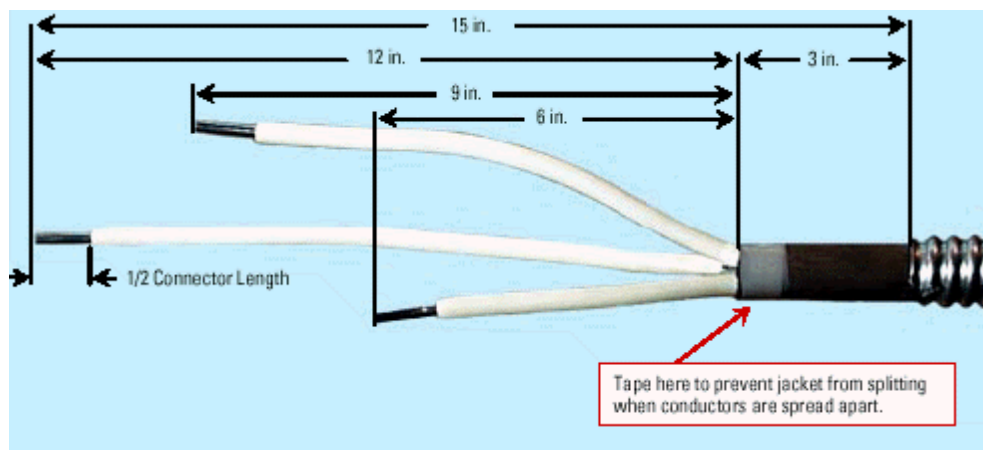
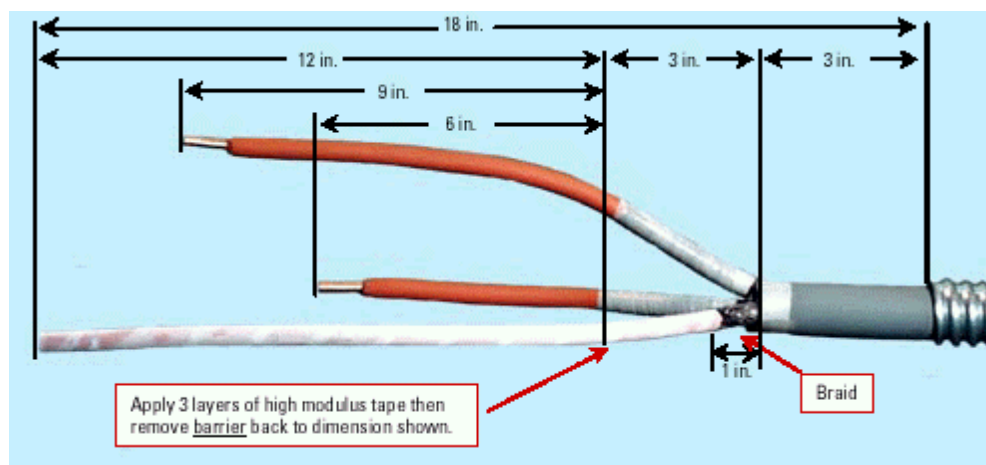

Figure 5-23: Conductor preparation for cables without barriers
Figure 5-24: Conductor preparation for cables with barriers
2. Prepare the cable ends. Figure 5-23 shows dimensions for round cables without barriers. Figure 5-24 shows dimensions for round cables with a taped or extruded barrier between the insulation and jacket. Carefully remove the armor to the dimension shown in the figures without cutting into the jacket. Remove any burrs or sharp edges on the cut and bend the armor to fit snugly around the jacket.